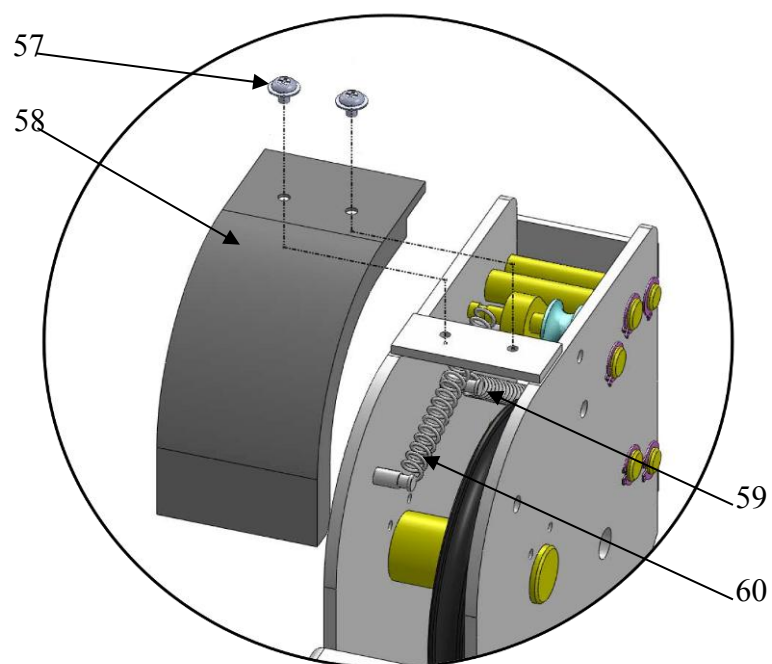

Fig. 29
M. Install spring and safety cover of cross beam (See Fig. 29).